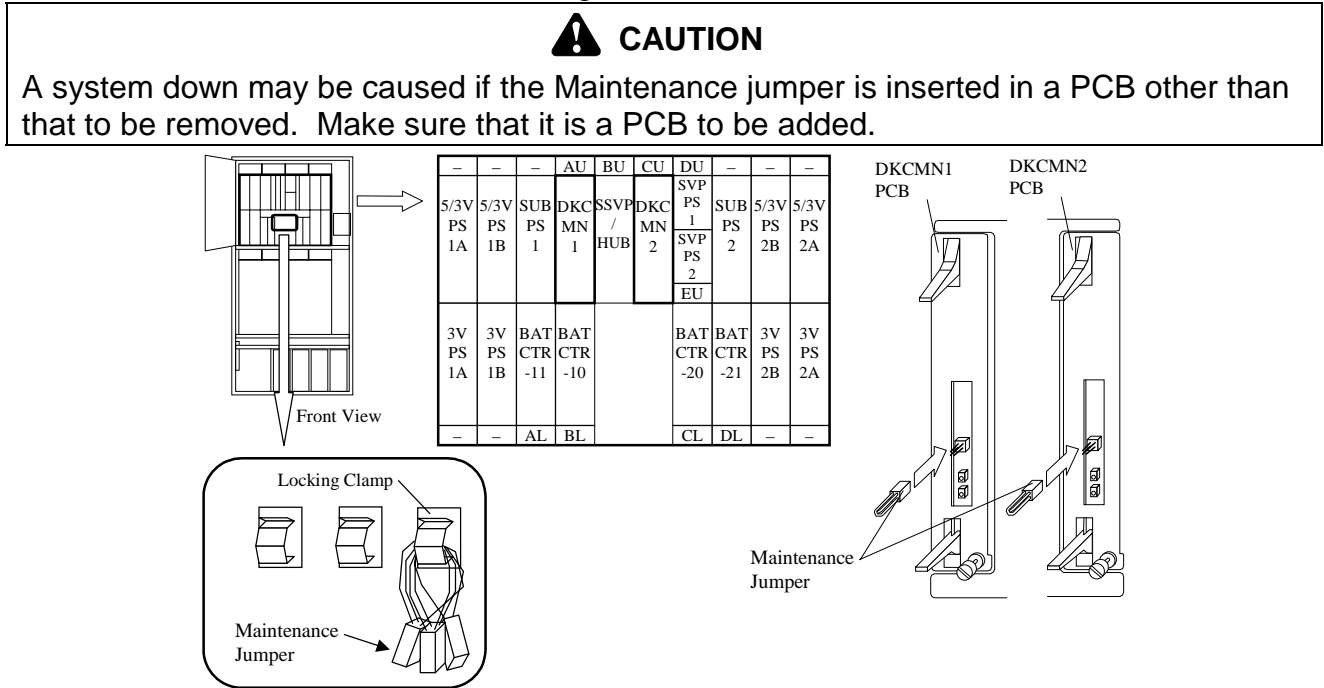

Fig. 3.10-2 Insertion of Jumper Plug
- a. Suppress the DKC panel function by inserting the maintenance jumpers into the jumper pins on the DKCMN PCBs as shown in Figure 3.10-2.